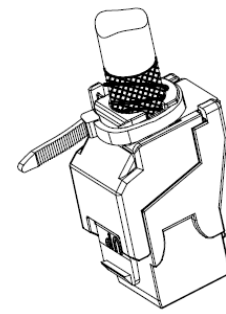

Fig. 14
- 4) Fix the cable tie to the shielding lug (Fig .14)